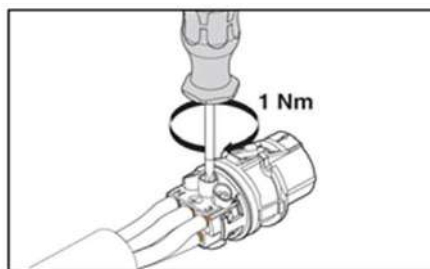

Fig. 16: Tightening the wires
- Tighten the screws on the contact carrier to 1 Nm (Placing the wires Fig. 16).